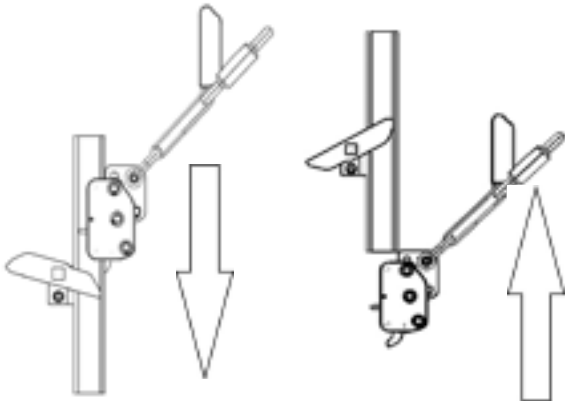

Fig. 17 Entering the climbing arrester system
3. When the safety-runner reaches the type A or type B end stops (Fig. 17), the safety-runner is prevented from leaving the arrester rail unintentionally upwards or downwards.